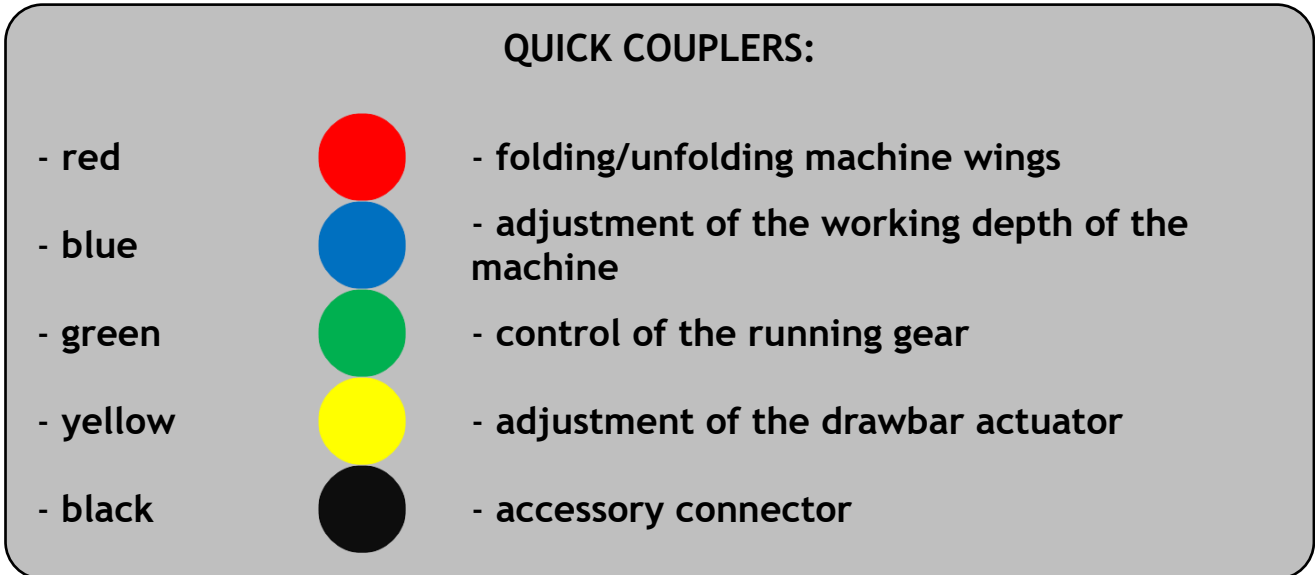

Figure 17 Colour coding of the hydraulic system's quick couplings.
- The machine's hydraulic system has quick couplings for quick and easy connection of the hoses and other hydraulic installation. Each quick coupling has its own designation (fig. 17):